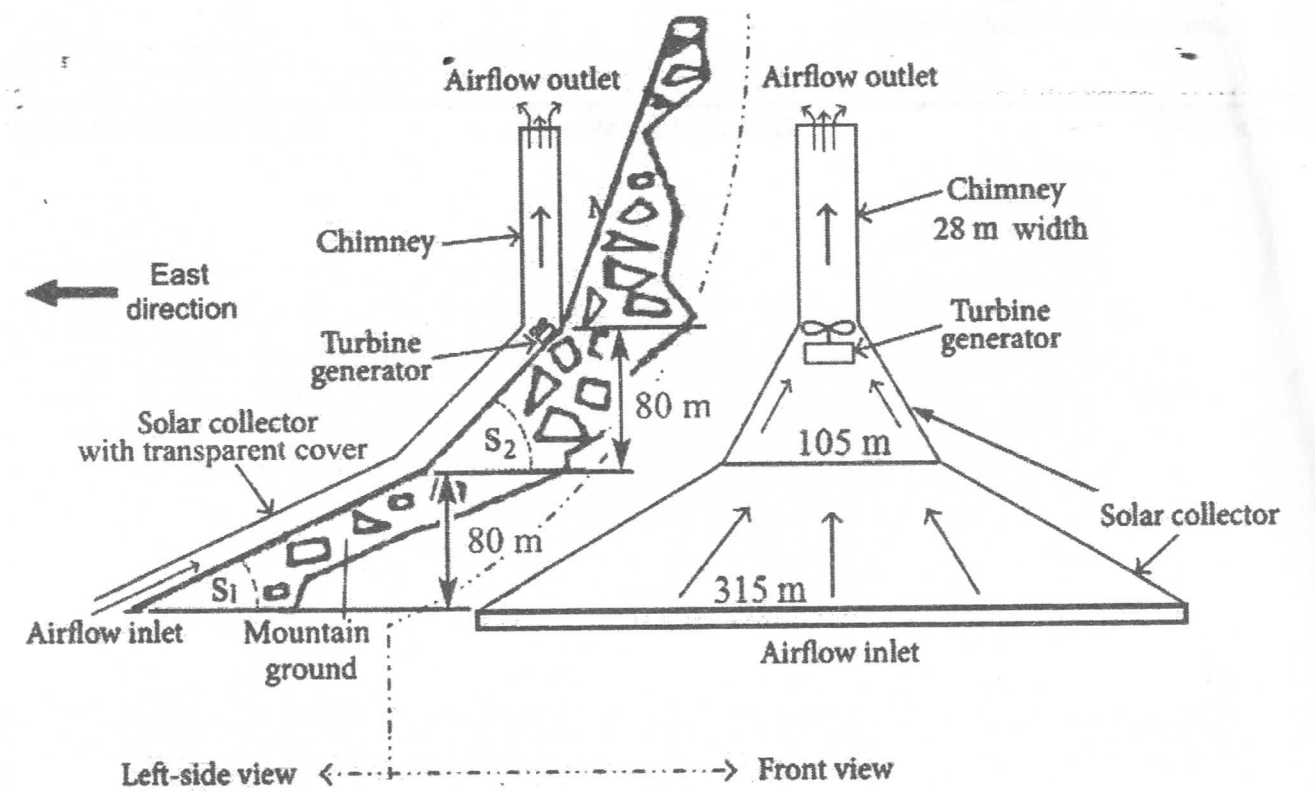

Fig. Q.3C Schematic of the solar chimney power system on sloped surface.
C) To meet the growing energy demand using clean energy technologies, a solar chimney power plant (SCPP) is proposed to be established in Port Safaga on the red sea coast (26.73° N and 33.94° E) at a mountainous site. The solar collector of the SCPP consists of two isosceles trapezoidal surface areas with a chimney at its apex as indicated in the figure (Fig. Q.3C) having two slope angles S₁ and S₂ of 30° and 45°, respectively. The base sides of trapezoid are 315 m and 105 m and the chimney width is 28 m. Due to the topography of the site, the SCPP collector is facing east. For site and project evaluation, estimate the following: